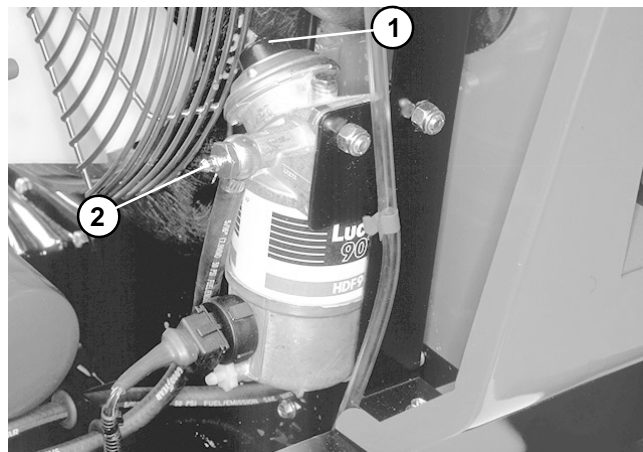

Figure 8
3. Insert a 3/16-inch hose over the bleed screw, and run the other end of the hose into a container to catch the fuel (Fig. 8).
4. Loosen fuel filter/water separator bleed screw a few turns. Pump priming plunger until a steady stream of fuel comes out of hole in bleed screw. When fuel stops foaming, tighten the bleed screw **during the down-stroke** of the priming plunger. Wipe up any spilled fuel (Fig. 8).